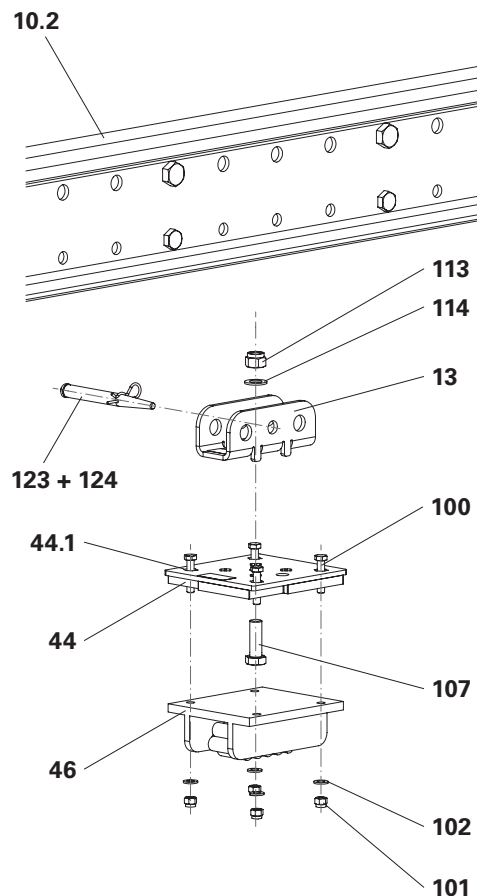

Fig. B3.22
5. Fix the assembly unit at the designated assembly position with filler pins 21x120 (**123**) and secure with Cotter Pins 4/1 ga (**124**). (Fig. B3.22)